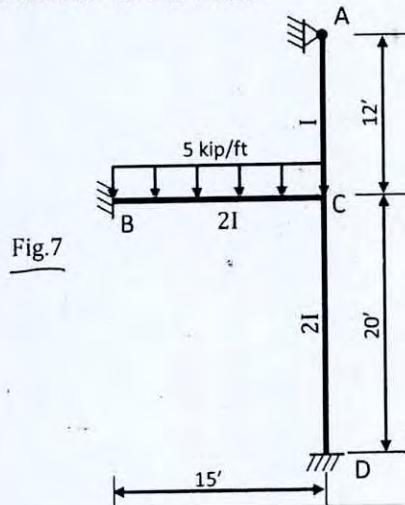

Fig.7
7. In addition to the load acting on the frame as shown in Fig. 7, support at B rotates 0.03 radian clockwise while the support at D moves right by 0.4 ft. Analyze the problem using moment distribution method and determine all support reactions (forces and moments). Take $EI = 3000 \text{ k-ft}^2$ for this frame. (21)